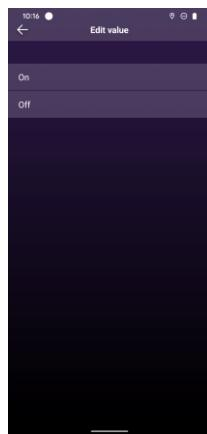

Figure 13
7. The attribute “Light module on/off state” is to enable or disable the light sensor. Tap it to enter setting interface, “Current value” means current state, “New value” is to set a new state value, available setting range is On & Off, On means the light sensor is enabled, Off means the light sensor is disabled. Factory default setting is “On”. Once set a new value, tap “Update” button at upper right corner to save the setting (as shown in **Figure 12 & Figure 13**).